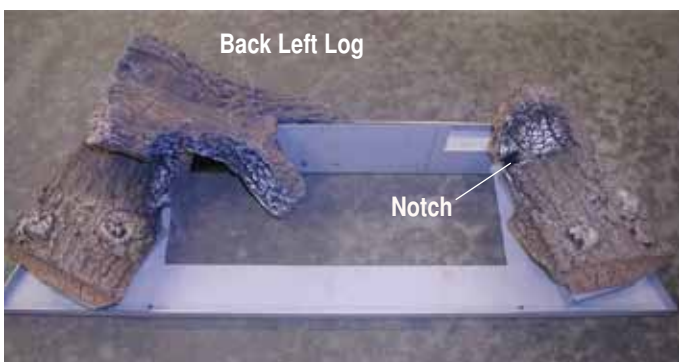
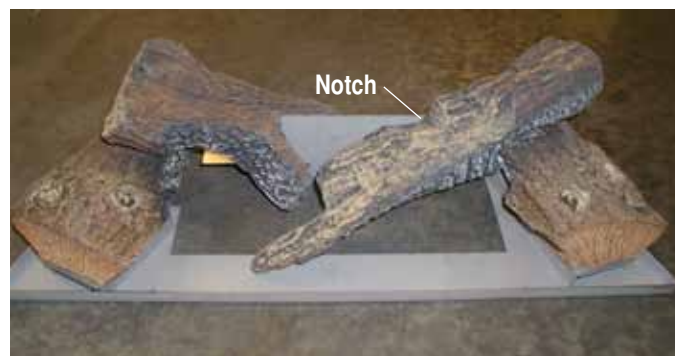

Figure 29c. Back Left log placement.
Figure 29d. Top right log placement.
2. Place the back left log on top of the bottom left log, while resting the right side of the log on the mounting tray. As shown in figure 29c.
3. Place the top right log as shown below in figure 29d. Align the tab on the underside of the log, far right end, with the provided notch in the bottom right log, Figure 29c.
4. Rest the top log in the provided notch on top of the Top right log, figure 29d.